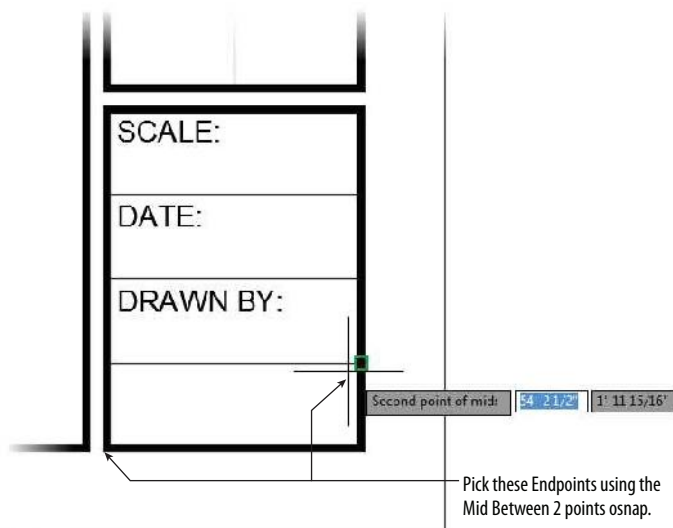

FIGURE 8.51: Positioning the text insertion point for the large box in the title block
4. Leave Arial as the font and change the height to 12 (350).
8. Right-click to select the Mid Between 2 Points osnap, and use the Endpoint osnap to pick the two endpoints along the top of the bottom-right box, as shown in Figure 8.51.